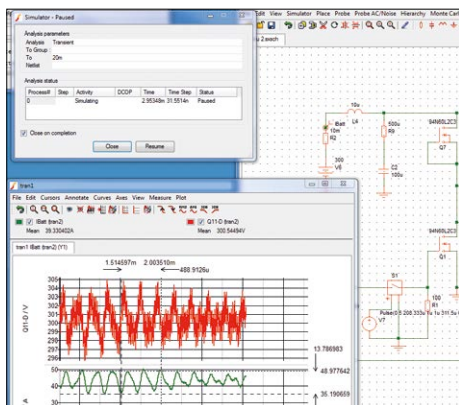

Figure 1. Overview of the interface of the SIMetrix simulator.
Crimping those so-called 'pinheaders' can be an extremely frustrating experience to the uninitiated. The first hurdle is to identify a suitable tool. One that I've used successfully is the SN-28B (Figure 1). Notice the fine detail on the jaws "AWG28-24" — the two sizes of "heart shaped" die in particular (2).
**A** Thanks to the internet, we have instant access to a plethora of information. Catalogs and characteristics of components are available with a couple of clicks. Electronic simulators like LTSpice or SIMetrix show on your screen a detailed analysis of your circuit's functions (**Figure 1**). Plotting the frequency response of a filter, as complex as it is, has never been so simple.